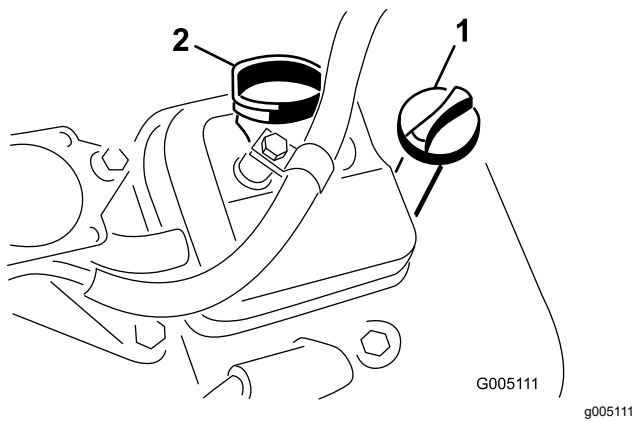

Figure 27
3. Insert the dipstick into the dipstick tube and thread it into the tube (Figure 27).